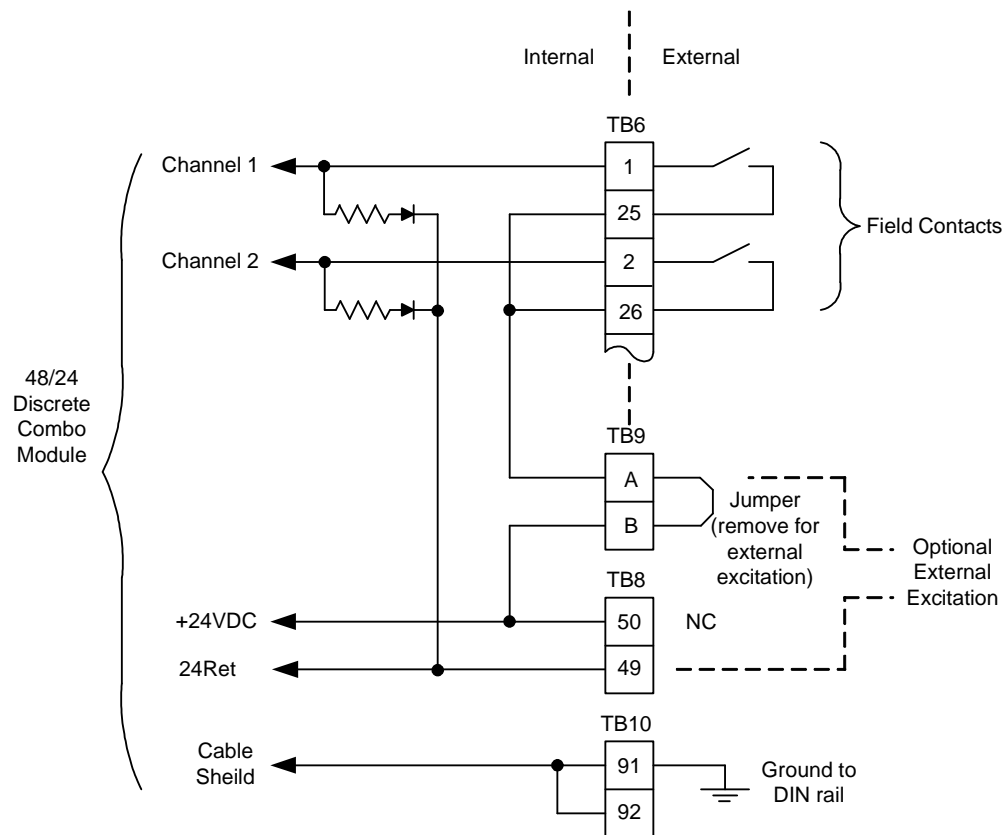

Figure 7-8. Discrete Input Interface Wiring to a 24/12 Discrete FTM
Each 24/12 Discrete FTM accepts 24 contact inputs. The 24/12 Discrete FTM may supply contact wetting voltage. Optionally, an external 18–32 Vdc power source can be used to source the circuit wetting voltage. If the 24 Vdc internal power source is used for contact wetting, a jumper is required between FTM terminals on TB9. If an external power source is used for contact wetting, the external source's common must be connected to the FTM's discrete input common, terminal 49 (see Figure 7-8).
- If the internal 24 Vdc is used, a jumper must be added to tie the internal 24 Vdc to the bussed power terminal blocks (see Figure 7-8).
- If an external 24 Vdc is used, the common for the external 24 Vdc must be tied to the discrete input common (see Figure 7-8). Power for contacts must be supplied by the control's power supplies, or the external power supply outputs must be rated to Class II at 30 Vdc or less and outputs must be fused with appropriately sized fuses (a maximum current rating of  $100/V$ , where  $V$  is the supply's rated voltage, or 5 A, whichever is less).